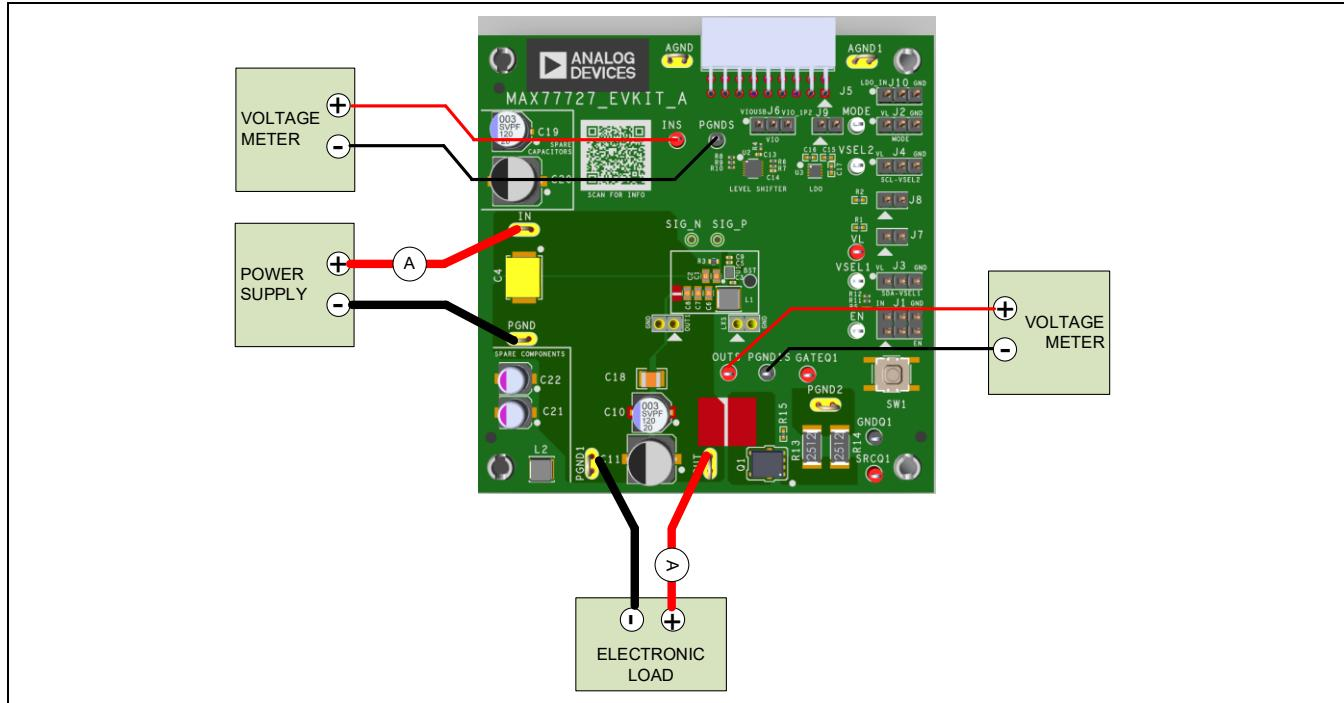

Figure 3. Typical Test Circuit
Read the MAX77726/MAX77727 IC data sheet before operating this EV kit. A typical MAX77727 test bench setup is shown in Figure 3. Follow these steps to arrange the required equipment and start the EV kit operation:
Figure 3 illustrates the typical efficiency measurement setup. Consider the ambient temperature during efficiency testing and monitor its effect on efficiency. When necessary, provide additional cooling (such as airflow) to stabilize the temperature. As illustrated in Figure 3, use the test points provided on the board and connect them in Kelvin when measuring input and output voltages. This prevents voltage drops caused by PCB trace resistance, ammeter resistance, or terminal contact impedance, ensuring measurement accuracy.
- Always use the input supply terminals to connect the input supply and the output terminals to connect the electronic load, as shown in Figure 3.